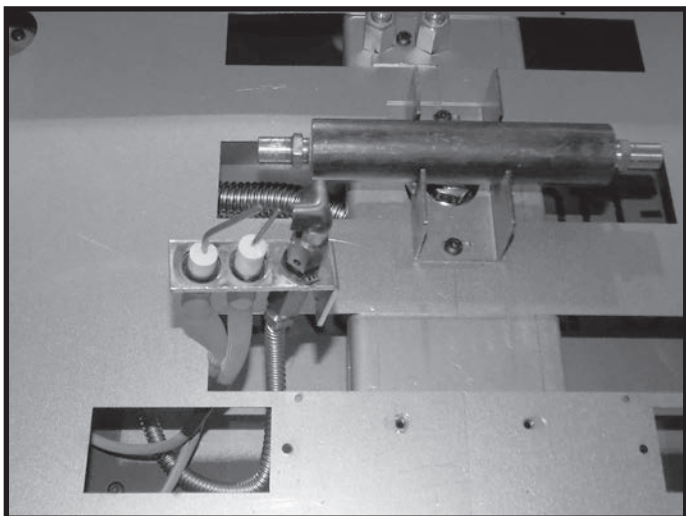

Figure 3: Feeding pilot assembly up through the left side secondary floor.
2. Insert the other secondary floor panel into the left side of the firebox. As the panel is lowered, feed the pilot assembly through the square opening in the panel as shown in Figure 3. Once the pilot is through the hole, and the secondary floor panels are seated properly, secure them with the screws provided.